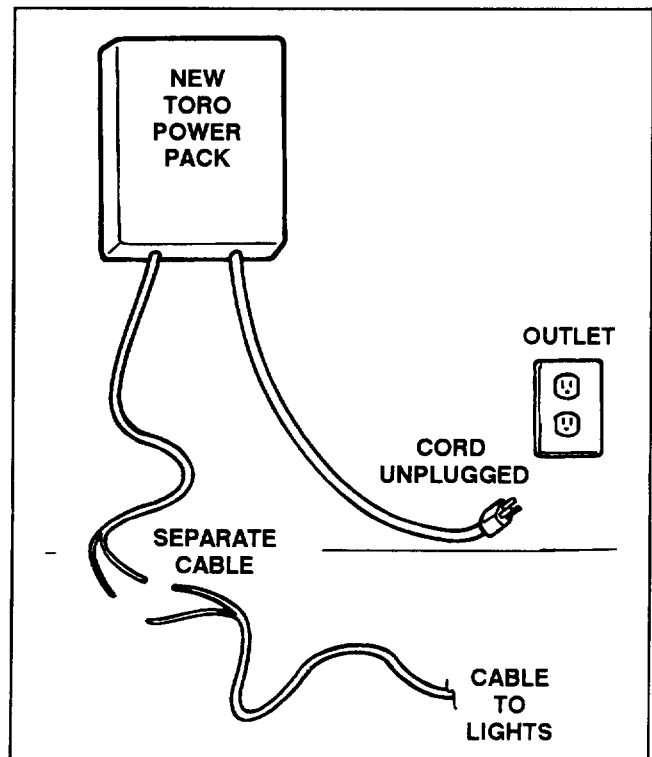

Figure 5
1. Separate the power pack cable and the main line cable into 2 individual wires, 3 1/2 inches long (Fig. 5).